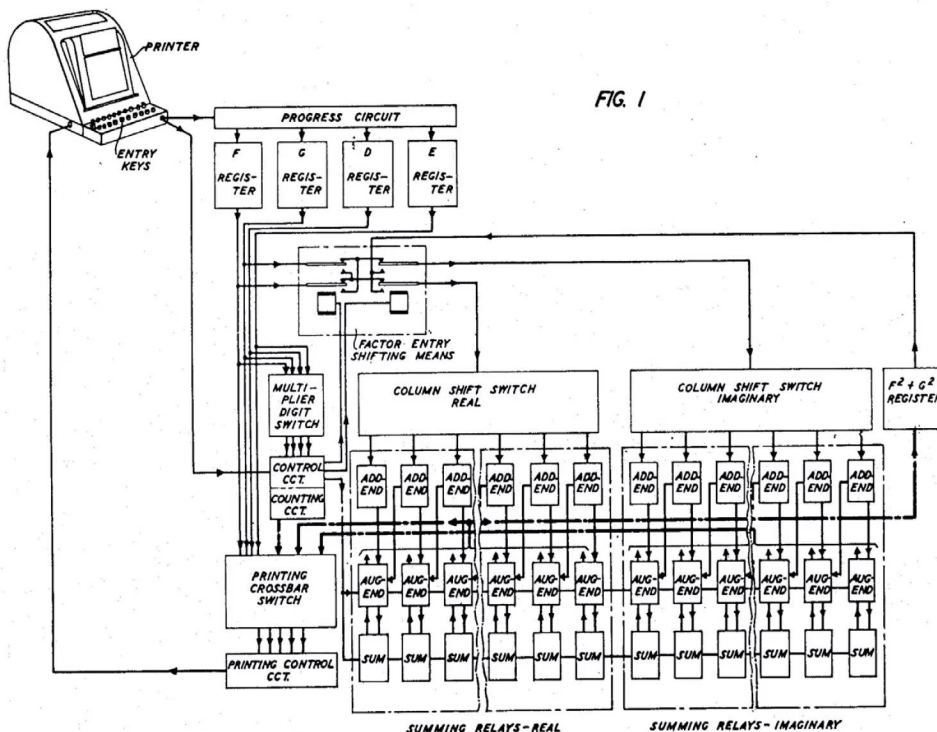

FIG. 1
**B**ack in issue 154 ([rpimag.co/154](http://rpimag.co/154)), we reviewed the fabulous PicoCalc, a Raspberry Pi Pico-based device from ClockworkPi, which can be flashed to work with many different firmwares and projects. As shipped, the device has a moderately tweaked version of PicoMite ([geoffg.net/picomite.html](http://geoffg.net/picomite.html)) onboard – an excellent ‘boot to BASIC’ computer, complete with the MMbasic interpreter. The PicoCalc is a great device, but it’s also totally possible to play with PicoMite with just a Raspberry Pi Pico and your regular computer (**Figure 1**).
◀ **Figure 1:** Whilst we were first introduced to PicoMite via the PicoCalc, there are a few variants, including just running it on a single Pico